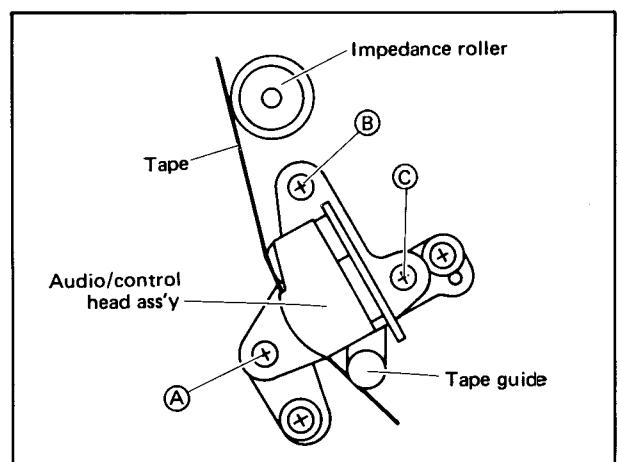

Fig. 4-54 A/C head height adjustment
3. Adjust screw **(B)** (shown in Fig. 4-54 for both maximum output levels and absence of phase difference between CH-1 and CH-2).